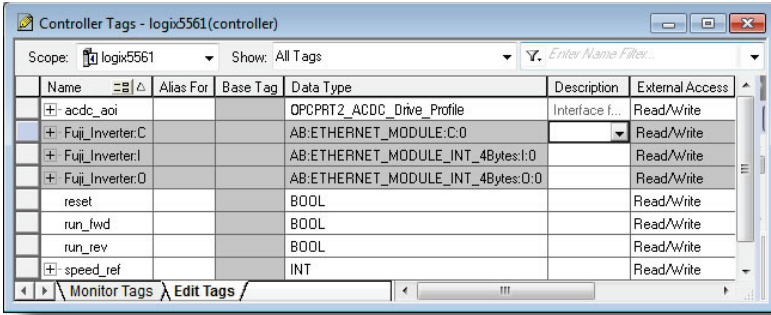

Figure 64: Create AC/DC Drive Profile AOI Tags
- 4) Create the tags in Figure 64.